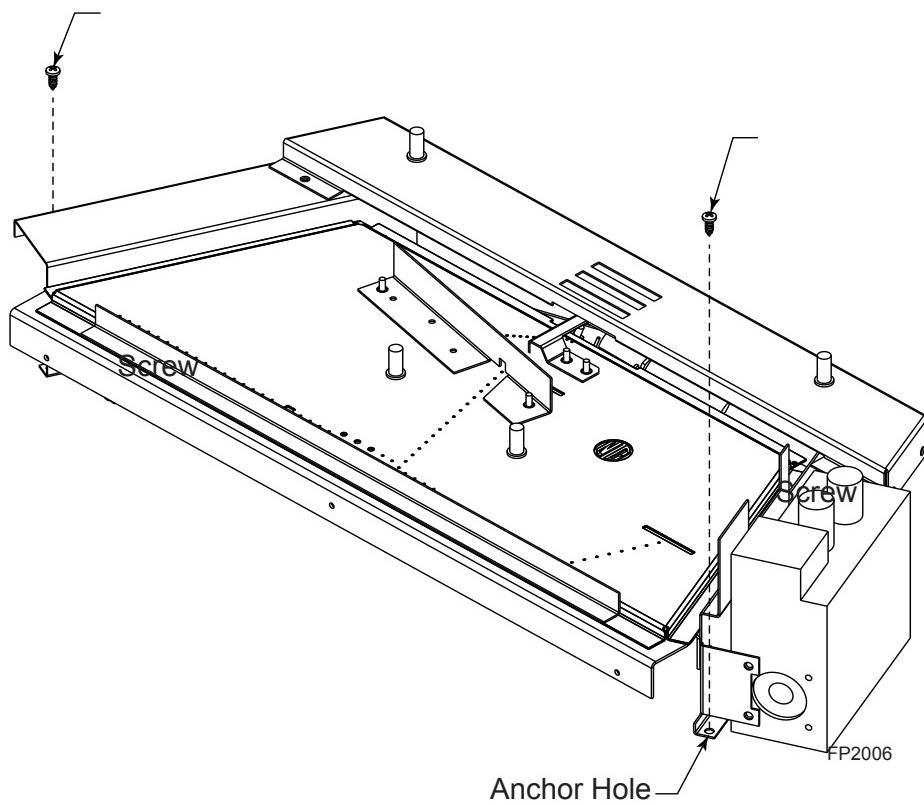

Figure 13 - Secure Heater to Floor of Fireplace/Firebox
2. Anchor holes are located on the right and left sides of the unit. After centering the burner correctly, mark the hole positions on the fireplace/firebox floor. Drill two (2) 5/32" diameter holes approximately 1 $\frac{1}{2}$ " deep.
3. Anchor the burner to the fireplace/firebox floor using the screws provided. *Figure 13*